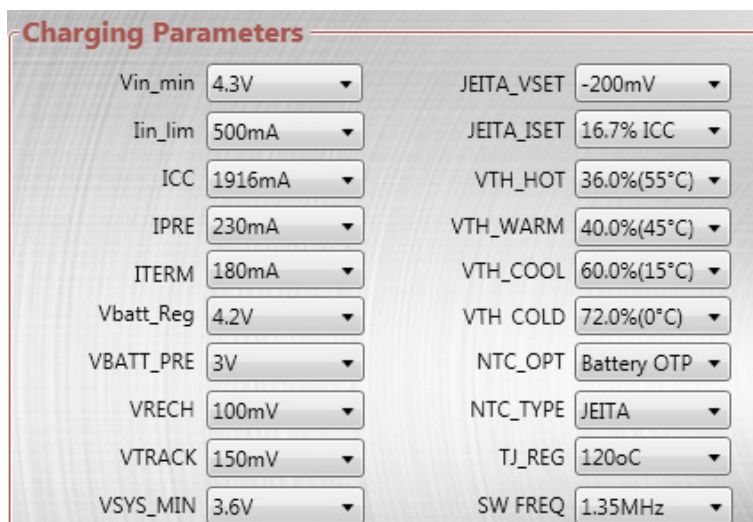

Figure 5: Selecting the Charger Functions
3. Select the charger functions (see Figure 5).